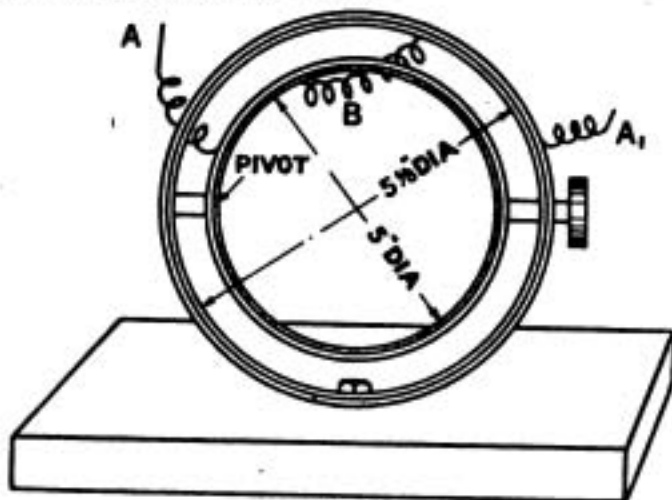

Fig. 3.
J.D. (New Cross) gives particulars of a receiving set which he wishes to modify in accordance with the description of a set given in the issue of September, 1919, page 354, Fig. 3, and asks (1) Whether his original inductance (305 turns, 22 S.W.G. on 7" former) can be used as aerial inductance. (2) Whether Nos. 22, 24, or 30 S.W.G. are suitable sizes of wire for coupling coil and jigger secondary. (3) What would be suitable diameters of formers and gauge, No. of turns of wire, for coupling coil and jigger secondary to give a range of wavelengths of 600 to 3,500 ms. with existing double slide inductance. (4) What number of plates would be required for secondary tuning condenser of 0.0003 mfd. capacity if made $3" \times 3"$ with glass dielectric $1/32"$ thick.
(1) Yes. (2) Primary No. 24 S.W.G., secondary No. 30; (3) Primary former $5\frac{1}{2}"$ diameter, length of winding $8\frac{1}{2}"$; secondary former 4" diameter, length of winding $7\frac{1}{2}"$. (4) One pair of plates will give you approximately the correct capacity. It is advisable, however, to employ a variable condenser for tuning the secondary circuit, the secondary inductance being kept constant, otherwise tappings or a slider on the secondary inductance will be required.
W.S. (Levenshulme) asks (1) If a tuning inductance $3\frac{1}{2}" \times 11"$ wound with 600 ft. (720 turns) approximate, of No. 2 S.W.G. enamelled wire with ten coarse and ten fine tappings is suitable for a single circuit crystal receiver. (2) What advantages, if any, are to be derived from a two-circuit crystal receiver as against a single circuit receiver, with an aerial within the P.M.G. limits. (3) What is a suitable capacity for a blocking condenser for use in conjunction with A.T.I. in (1) and 2,000 ohm 'phones. (4) What are suitable dimensions for a telephone transformer.
W.H. (Bolton) sends a sketch of a variometer (Fig. 3), which he proposes to use for aerial tuning, and asks (1) If it will be suitable. (2) How far certain gear will receive messages. (3) What size wire to use on the variometer.
In connection with these indoor aerials of reduced size, attention may be called to the paper read by Mr. G. G. Blake at the last meeting of the Wireless Society of London,* in which for aerial a single wire a few feet in length only was used. This and the earth connection were joined up across the receiver terminals in the manner described above, and similar to that shown in Fig. 3, page 411, Sept. 4th issue.
Incidentally, it may be remarked that those experimenters fortunate enough to possess a complete heterodyne wavemeter unit may employ it very easily as a receiver in connection with experiments such as have been described above, since the arrangement shown in Fig. 3 constitutes little more than a simple form of separate heterodyne unit with the aerial and earth connections joined across the
helix of manageable size as a receiving aerial until the publication of the results of some recent tests by General G. O. Squier. In the simplest of all arrangements one end of the helix may be connected to one terminal of the receiver, the other terminal of which is earthed, as in Fig. 3, and the tuning effected by means of the variable condenser C_1 . The helix is then used merely as a conductor having a capacity to ground by reason of which the signals can be picked up. If provision is made for tapping a connection on to various points along the helix, it is possible to dispense with C_1 , and to tune up the complete aerial circuit comprising the helix and the coil L_1 (Fig. 3), by varying the number of turns in the helix, in a similar manner to tuning up an ordinary receiving circuit.